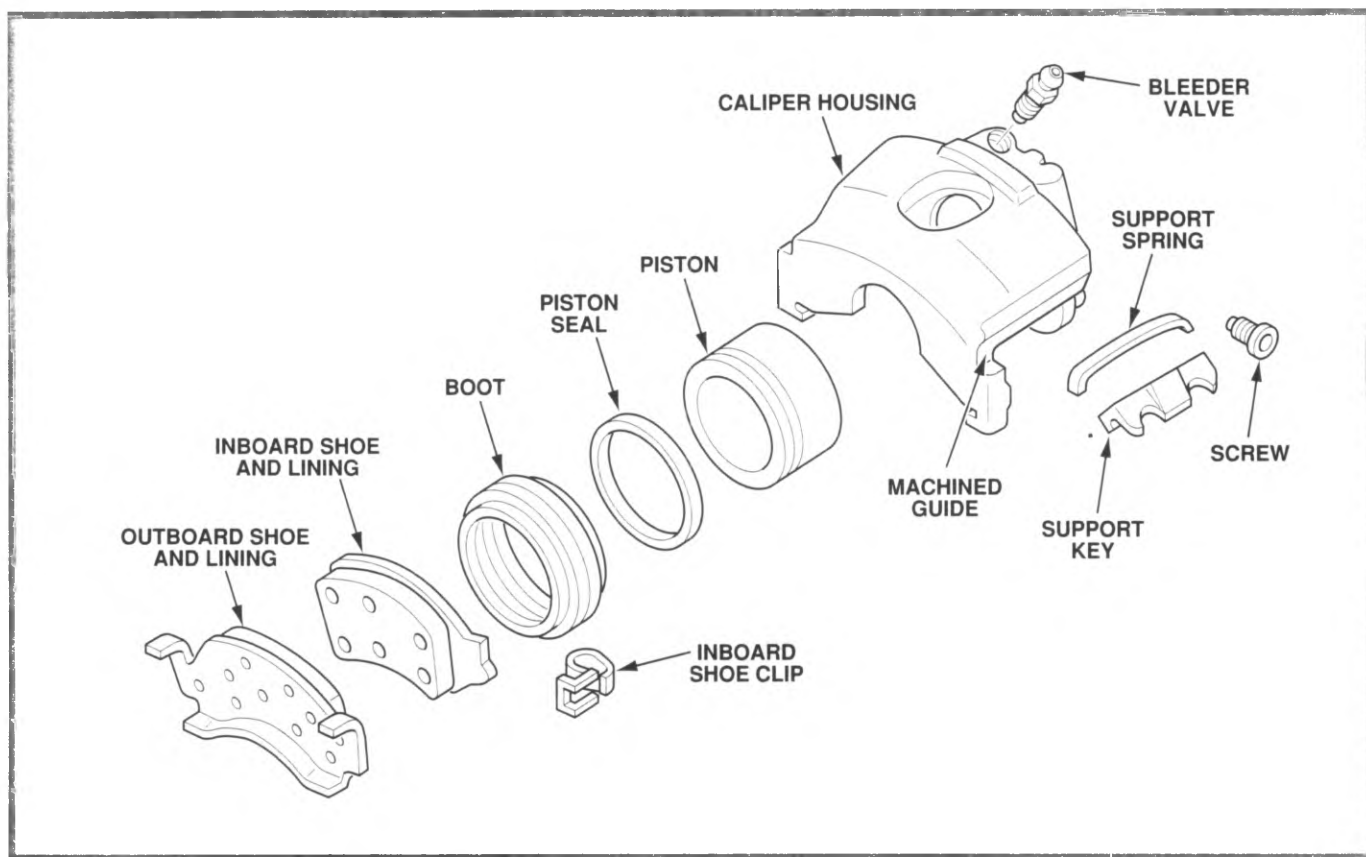

Figure 6-4, Machined Guide Sliding Caliper
- Machined guides on the caliper and mounting bracket (see figure 6-4)